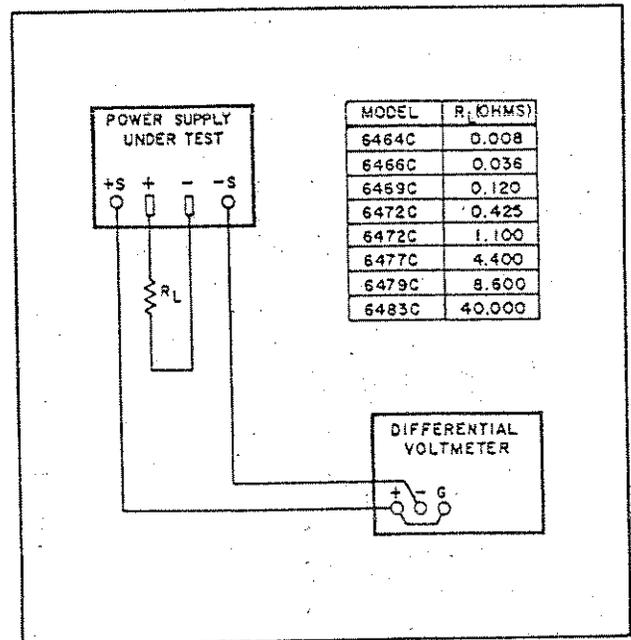

Figure 5-1. Constant Voltage Load Regulation Test Setup
- Connect test setup shown in Figure 5-1.